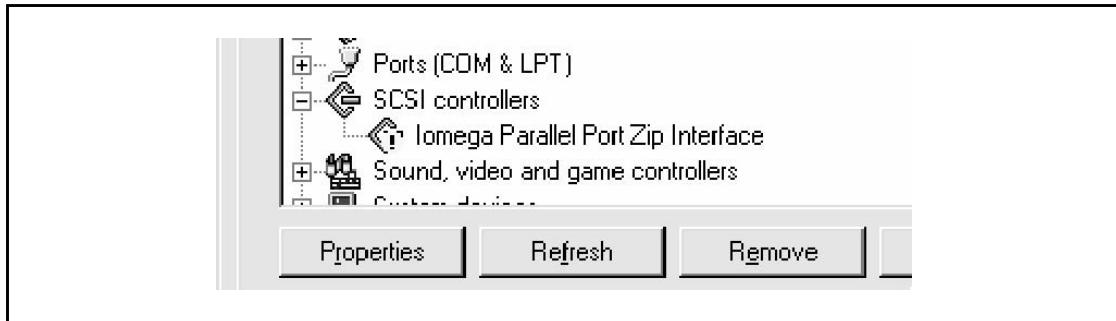

Figure 13-6. The Device Manager tab on the System Properties window flags potential problems with the yellow exclamation point symbol
- ▼ **A yellow circle with a black exclamation point** This symbol before a device name (see Figure 13-6) indicates a possible resource conflict.
3. Choose the Resources tab. The display should be very much like that in Figure 13-6.